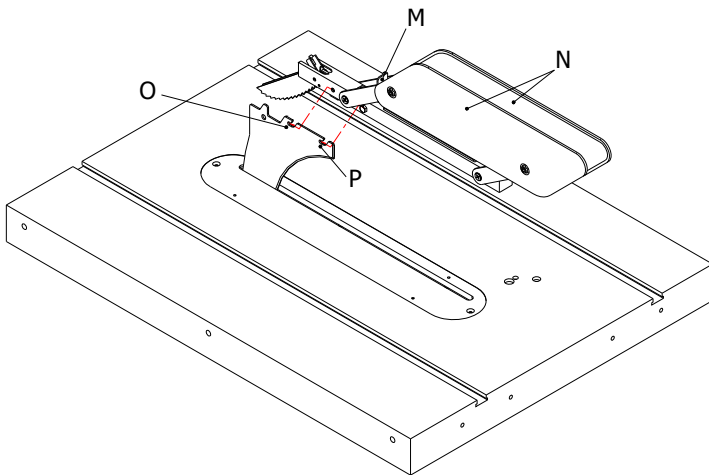

**Fig.17(set screw for adjusting riving knife)**
6. Use the set screws shown in **Figure 17** to adjust the riving knife bracket and re-install the riving knife.